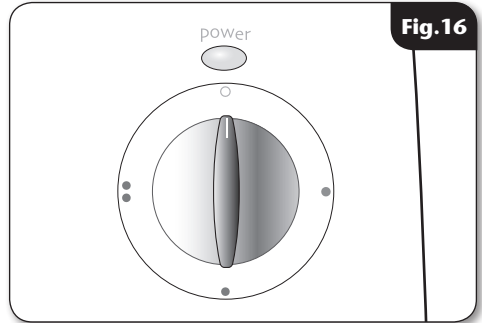

Fig.16
- Before turning on the electric and mains water supplies to the shower, make sure that the power selector is at the 'STOP' position (fig.16).